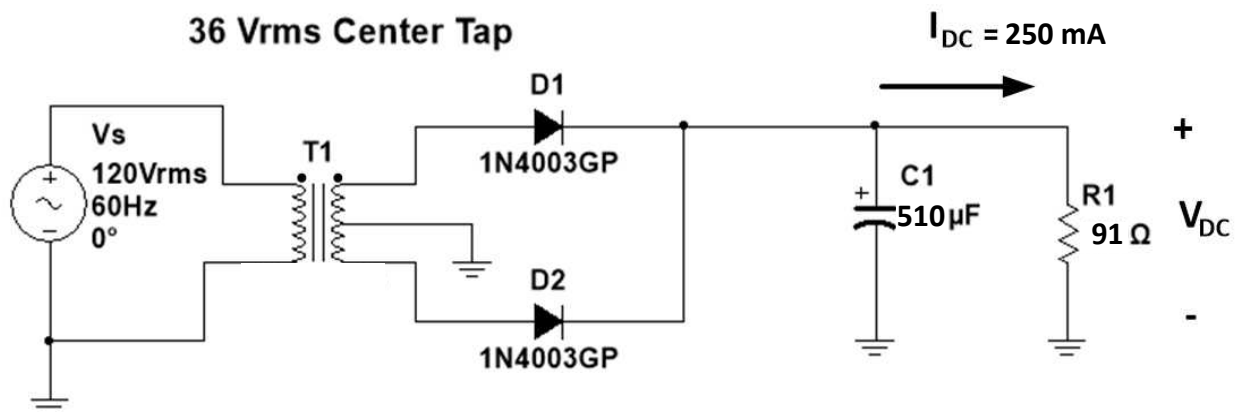

Figure 4-79.
- 4-55 A simple capacitor filter uses a $1000\ \mu\text{F}$ capacitor (C). The DC load current (I_{DC}) is $0.15\ \text{A}$ and the ripple frequency (f_r) is $120\ (\text{Hz})$. Find the peak-to-peak ripple ($V_{r(p-p)}$).
- 4-56 A simple capacitor filter uses a $510\ \mu\text{F}$ capacitor (C). The DC load current (I_{DC}) is $0.2\ \text{A}$ and the ripple frequency (f_r) is $120\ (\text{Hz})$. Find the peak-to-peak ripple ($V_{r(p-p)}$).
- 4-57 Analyze the DC power supply shown in Fig. 4-79. The DC load current (I_{DC}) is $250\ \text{mA}$. Find V_m , V_{dcm} , $V_{r(p-p)}$, $V_{dc(min)}$, V_{DC} , $V_{r(rms)}$, the $\%r$, and determine the required WVDC rating for the capacitor. Check that we have a lightly loaded filter.
- 4-58 Analyze the DC power supply shown in Fig. 4-79. The **transformer** is changed to a **25.2 VCT** unit. The load resistance (R_L) is now **$20\ \Omega$** . The capacitor (C_I) is changed to a **$2000\text{-}\mu\text{F}$** unit. The DC load current (I_{DC}) is **$750\ \text{mA}$** . Find V_m , V_{dcm} , $V_{r(p-p)}$, $V_{dc(min)}$, V_{DC} , $V_{r(rms)}$, the $\%r$, and determine the required WVDC rating for the capacitor. Check that we have a lightly loaded filter.